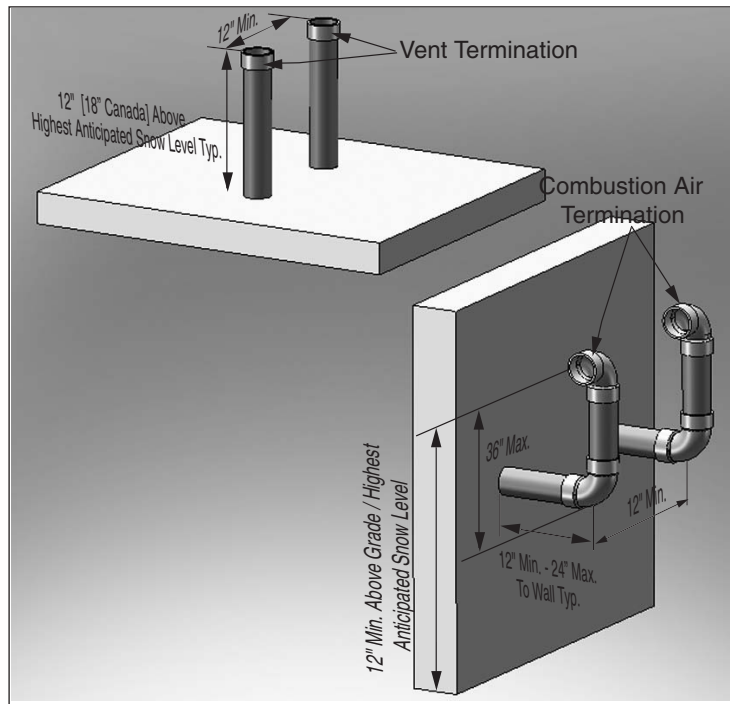

Fig. 22: Direct Vent - Vertical Termination of Vent and Sidewall Termination of Combustion Air of Multiple Boilers
2. Each vent and combustion air termination must be a minimum 12” from the adjacent termination for installations in the U.S. as shown in Fig. 22. For installations in Canada, provide clearances as required by CSA B149.1 or 149.2.